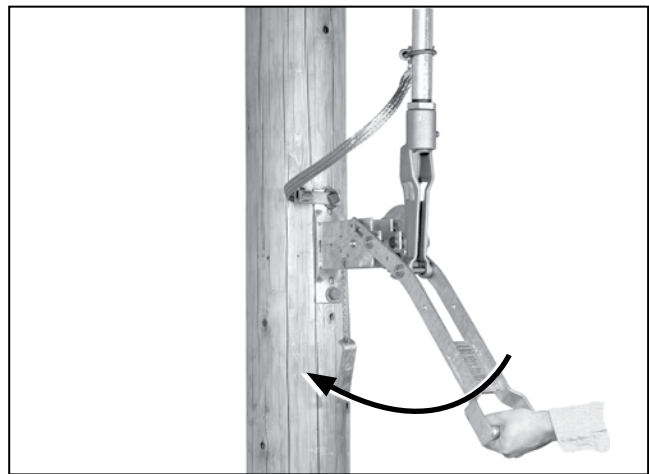

Figure 25. Swing the operating handle rapidly.
- (c) Swing the handle quickly and firmly to the fully Open or fully **Closed** position. DO NOT slow down or stop part way. See Figure 25.